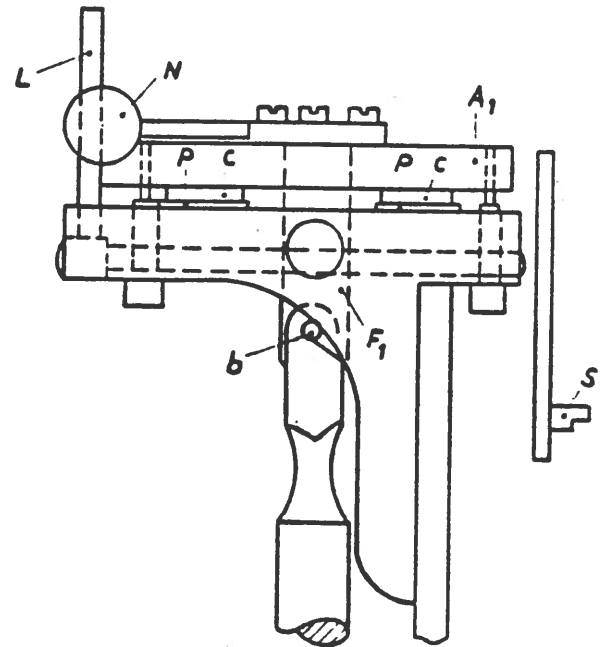

Fig. 4
8. Pendulum suspension. We have to suspend the pendulum at the pin "b" of the pendulum suspension with the opening of the hook towards the front of the pin "b" (Fig. 4). Just before the pendulum is set in motion we have to unscrew the clamping screws "a a" which are situated at both the sides of the pendulum suspension "T T" and serve for fixing the lower part "F1", so that the steel knife edges will not be damaged during suspending the pendulum.